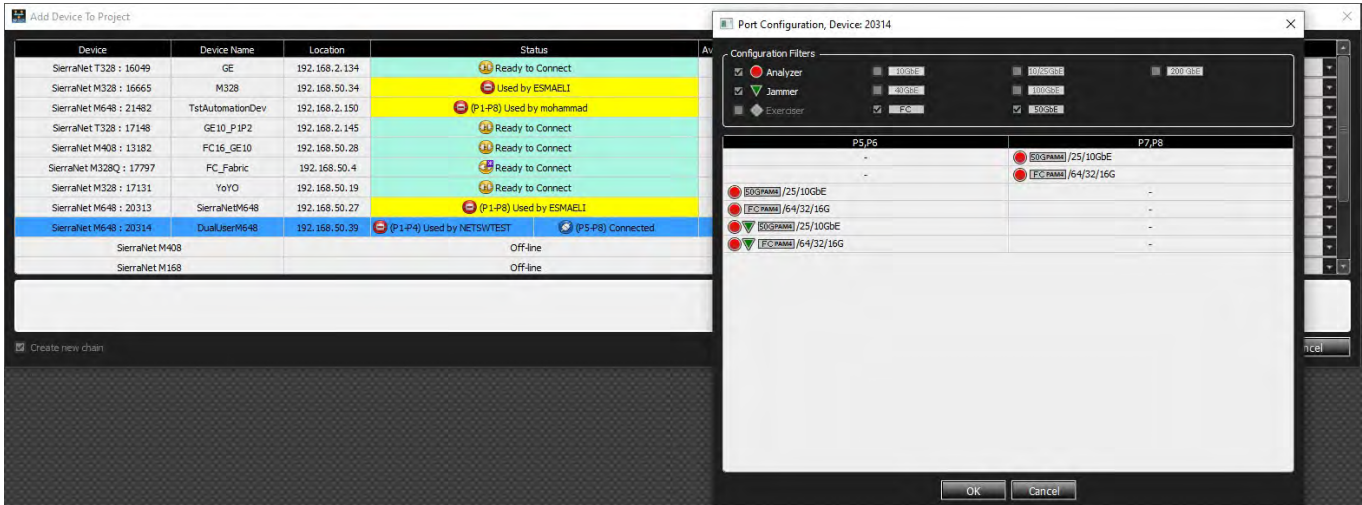

Figure 2.14: H2 Available Projects
3. Select the desired Port Configuration for ports P1-P4 (Figure 2.14). See Ethernet Configuration for more information on Port Configurations.
At this point, another user can repeat the above process and connect to ports P5-P8 (Figure 2.14).